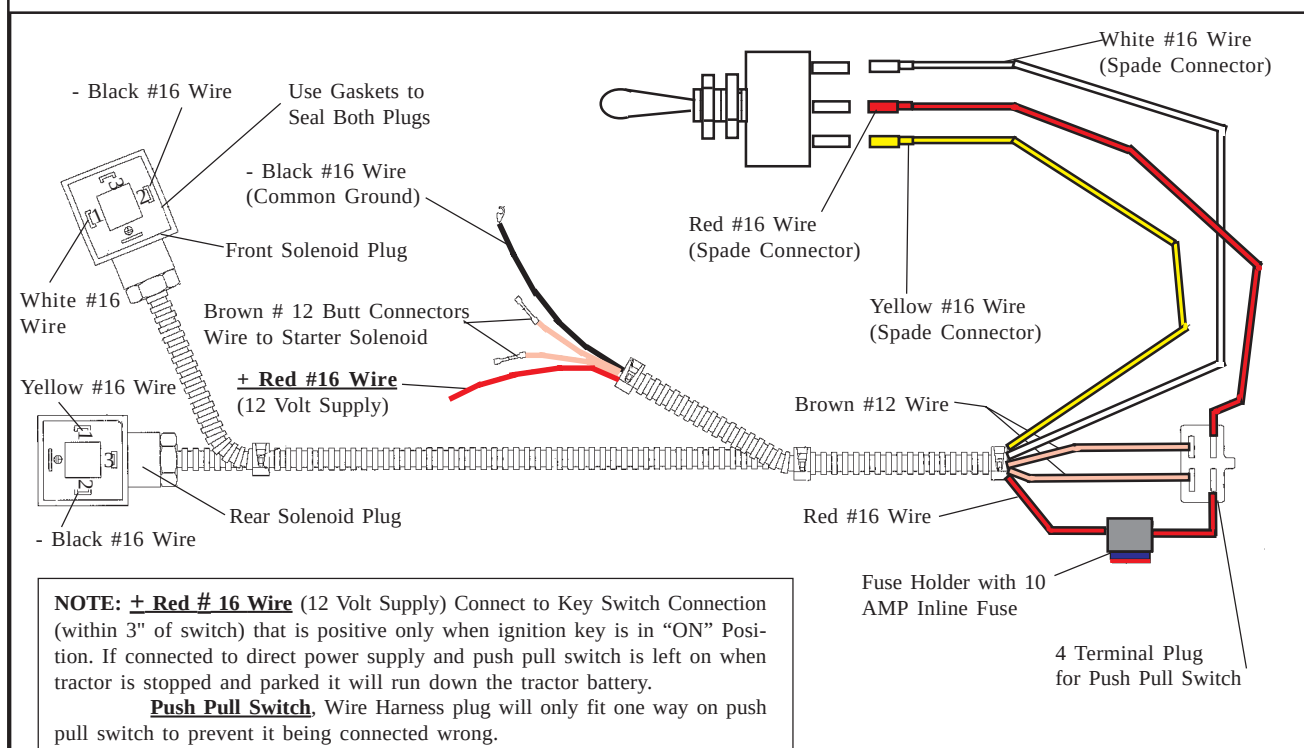

Figure 1
The electrical circuit is a pre-assembled wire harness that will control the motor functions. The harness will be used with a push pull off/on switch that prevents the tractor from being started when motor is engaged. The wire harness uses a three position toggle switch that is used to reverse the knife bar direction of travel. These switches are not part of the wire harness assembly, These switches must be connected correctly to operate correctly (See Figure 1). There is a motor control valve mounted on top of the hydraulic tank that will have two electrical solenoids connected to it. The wire harness has two plugs on one end that connects to the solenoids, one plug will have longer wire (also has White Wire) than the other and will connect to the solenoid further most from the cutter bar mount. The other plug with the shorter wire (has Yellow Wire) will connect to the first solenoid closet to the operator.
When connecting wire harness to toggle switch the red wire MUST connect to the center post of switch, the yellow and the white wire must connect to the two outside post, it will not mater which outside post as long as one each of yellow or white wire is connect to the outer post (See Figure 1).
3. Wire Harness. The wire harness is a pre-assembled wire loom (See Figure 1), some of the wires will install inside of the tractor steering column area and some will go out to the Hydraulic Tank. The panel on the side of the tractor steering column will need to be removed (Consult tractor manufacture manuals for procedure to remove panel). The floor pad will have the cable run through it next to the control cables on cab model and alone on the ROPS model (See Figure 3). The wire harness must be run through the Boot Cover (See Figure 4) before the wires are connected,